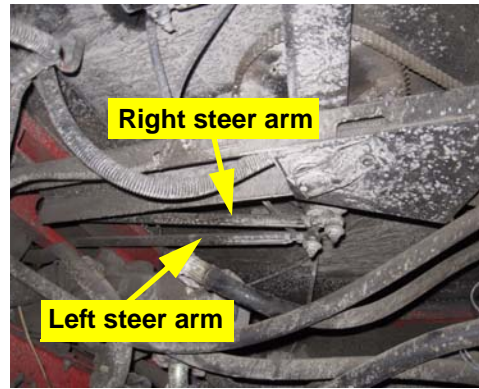

Figure 5a: Steering arm location
- a. Locate the steering control linkage under the cab. The ram end of the cylinder will mount to the left steering arm and the rod end of the cylinder will mount on right rear steering arm (Figures 5a, 5b and 5d).